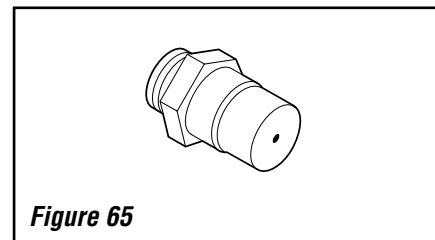

Figure 65
Step 7. Remove the burner orifice from the manifold and replace it with the one provided with the kit. See *Table 14* for orifice sizes required for use with natural gas or propane gas. *Figure 65* illustrated the orifice.